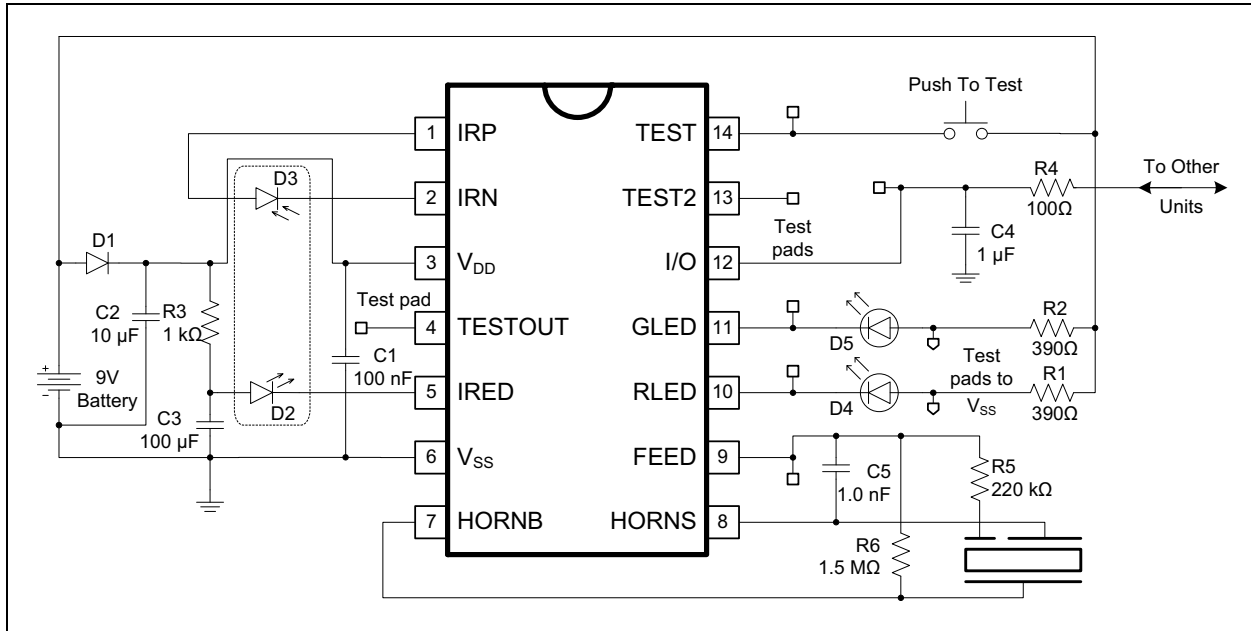

FIGURE 4-1: Nominal Application Circuit for Programming.
Figure 4-1 shows the typical application circuit with special probe pads for test modes. Logic Inputs are FEED, IO, TEST2, and TEST. They all need to have driven inputs on these nodes in the test modes. TESTOUT is a digital output. RLED and GLED are analog outputs.
1. Power up with the bias condition shown in Figure 4-1 to enter M0. At power-up, TEST = IO = FEED = TEST2 = V_{SS} .
1. Power up with the bias condition shown in Figure 4-1 to enter M0. At power-up, the 4 input pins TEST = IO = FEED = TEST2 = V_{SS} . TESTOUT is the serial output.
1. Power up with the bias condition shown in Figure 4-1 to enter M0. At power-up, TEST = IO = FEED = TEST2 = V_{SS}.